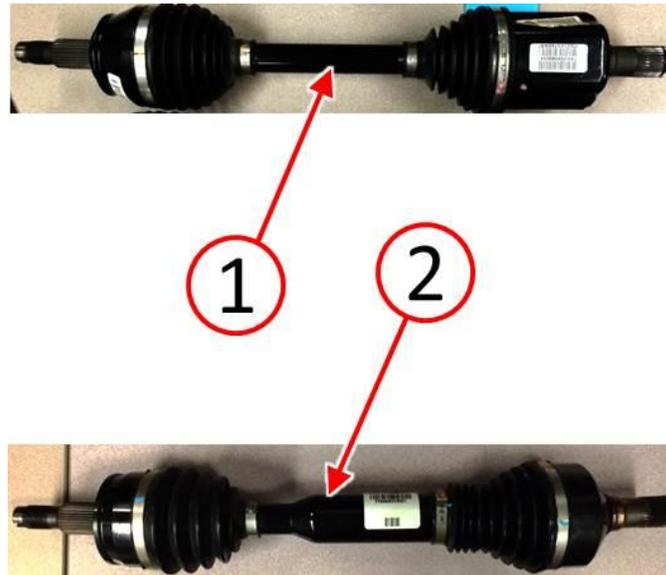

Fig. 1 Axle Half Shaft Identification
1. Inspect the front axle half shafts to identify which type is currently installed in the vehicle. Refer to (Fig. 1).
- a. Straight Diameter Center Shaft (Fig. 1)>>> Continue with the Repair Procedure Step #2.
- b. Stepped Diameter Center Shaft (Fig. 1)>>> This Bulletin does not apply. Normal diagnosis should be performed.